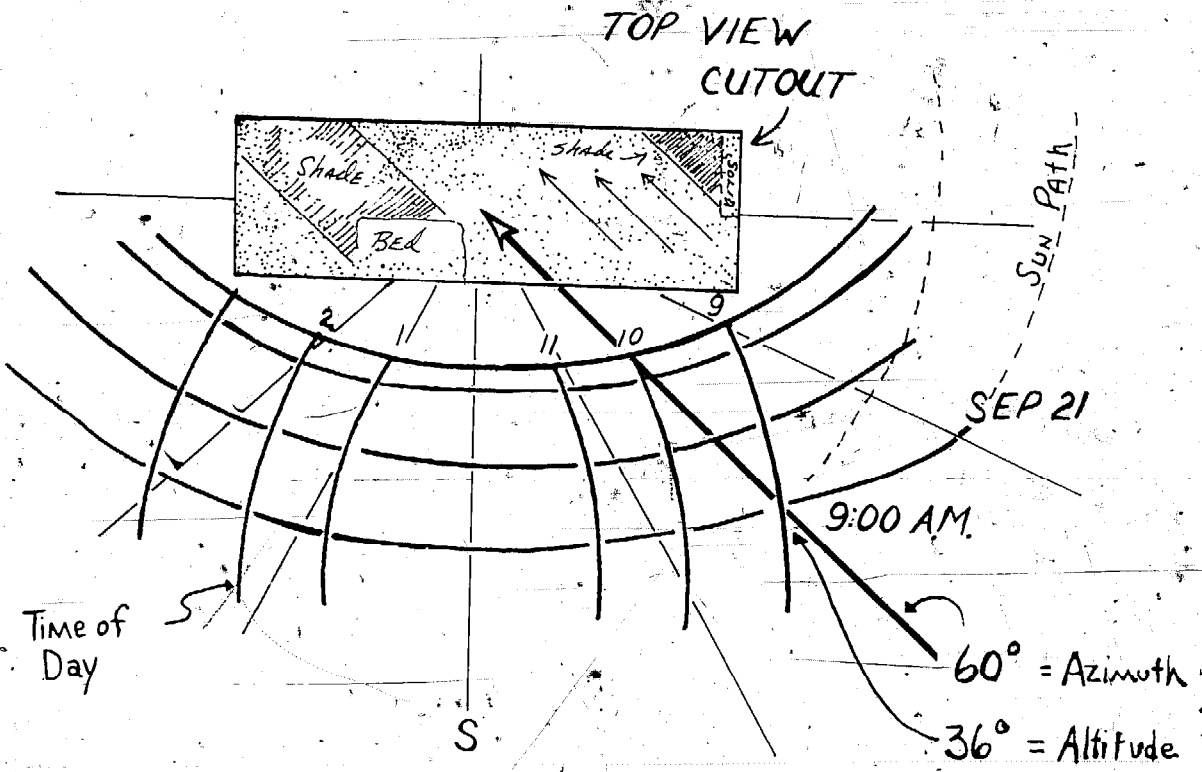

FIGURE 100
- 1) Find the chart nearest your latitude (Figures 100 and 101 are for  $36^{\circ}$  north latitude.)
5) The first objective is to examine the duration of sunlight the greenhouse will receive at various times of year. Choose a month and follow its sun path, noting the number of hours the model is receiving direct sunlight. Solid walls and obstructions will shade the incoming light at certain times of day (see Figure 100). Observing the hours of shading will allow you to design clear and solid walls to best suit your particular location.